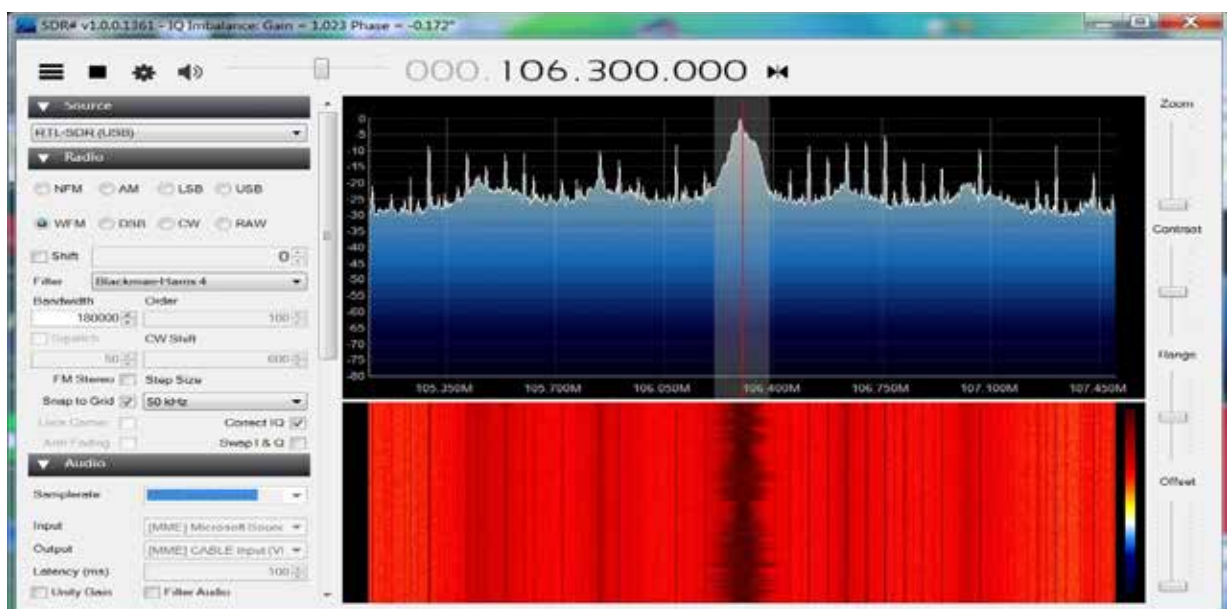

Figure 5.
6. To check that SDRSharp is running correctly, run SDRSharp, select RTL_SDR from the Source drop down menu. Select WFM for the Radio setting and tune the frequency to a local FM radio station. You should now be able to hear the station audio from the PC speakers (Figure 5).